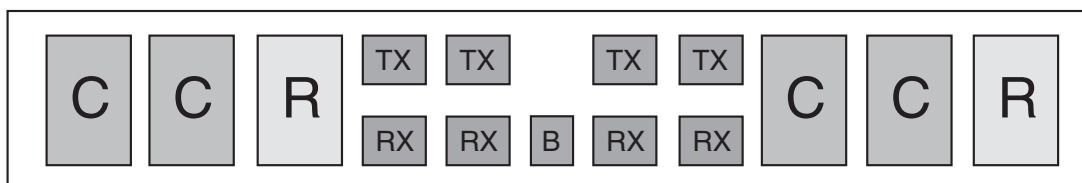

Figure 1-4 • RTAX-S SuperCluster
Two C-cells, a single R-cell, and two Transmit (TX) and two Receive (RX) routing buffers form a Cluster, while two Clusters comprise a SuperCluster (Figure 1-4 on page 1-3). Each SuperCluster also contains an independent Buffer (B) module, which supports buffer insertion on high-fanout nets by the place-and-route tool, minimizing system delays while improving logic utilization.